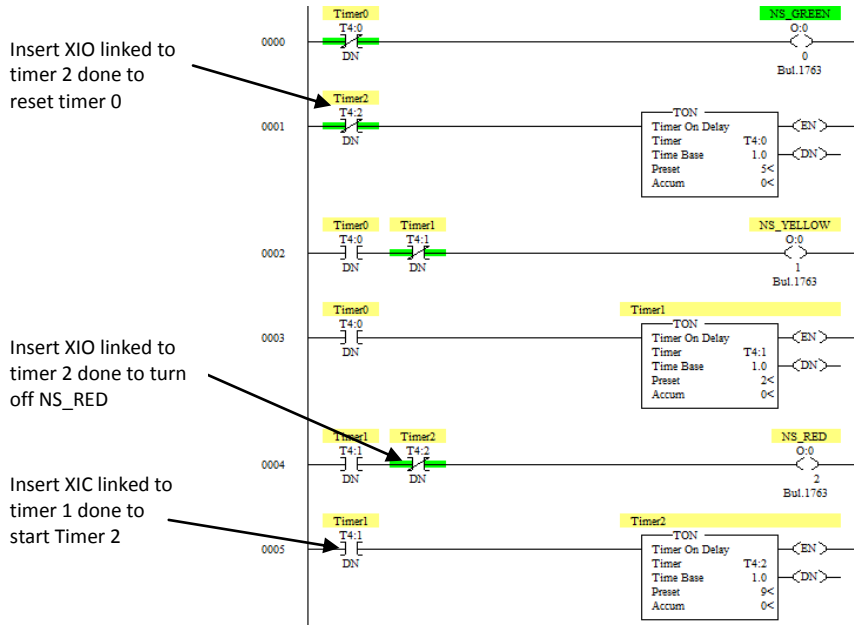

Figure 9: Timer 2 should turn off the NS_RED and reset the Timer 0
- Timer 2 should turn off the NS_RED and Turn on the NS_GREEN after 9 seconds. In order to turn NS_GREEN, all we need to do is reset timer 0, which will close the rung connected to NS_GREEN. Resetting timer 0 in rung 1 opens the contact in rung 3 and resets timer 1 which in turn will reset timer 2. So the logic repeats itself. Complete your ladder logic as shown in figure 9.